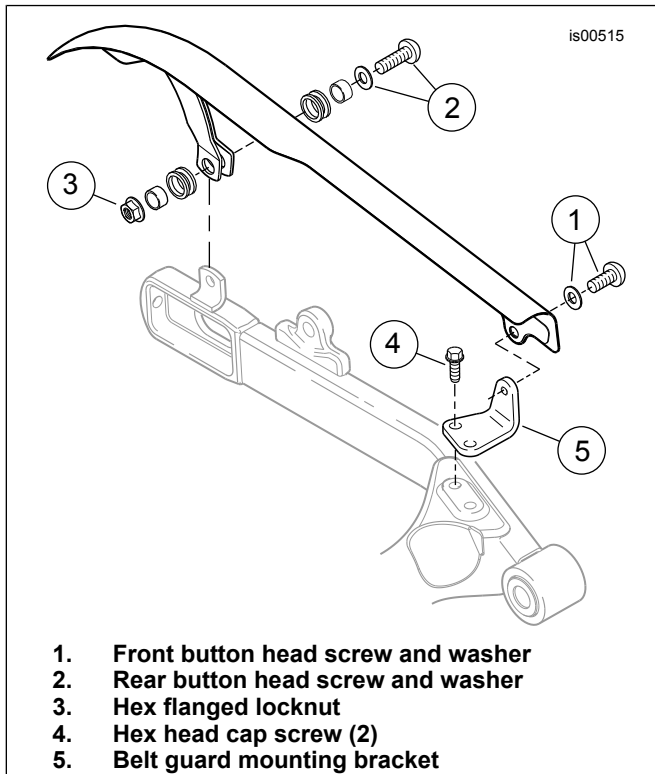

Figure 3. Upper Belt Guard Removal
- See Figure 3. Remove the front (1) and rear (2, 3) upper belt guard fasteners and carefully remove the upper belt guard from the vehicle.